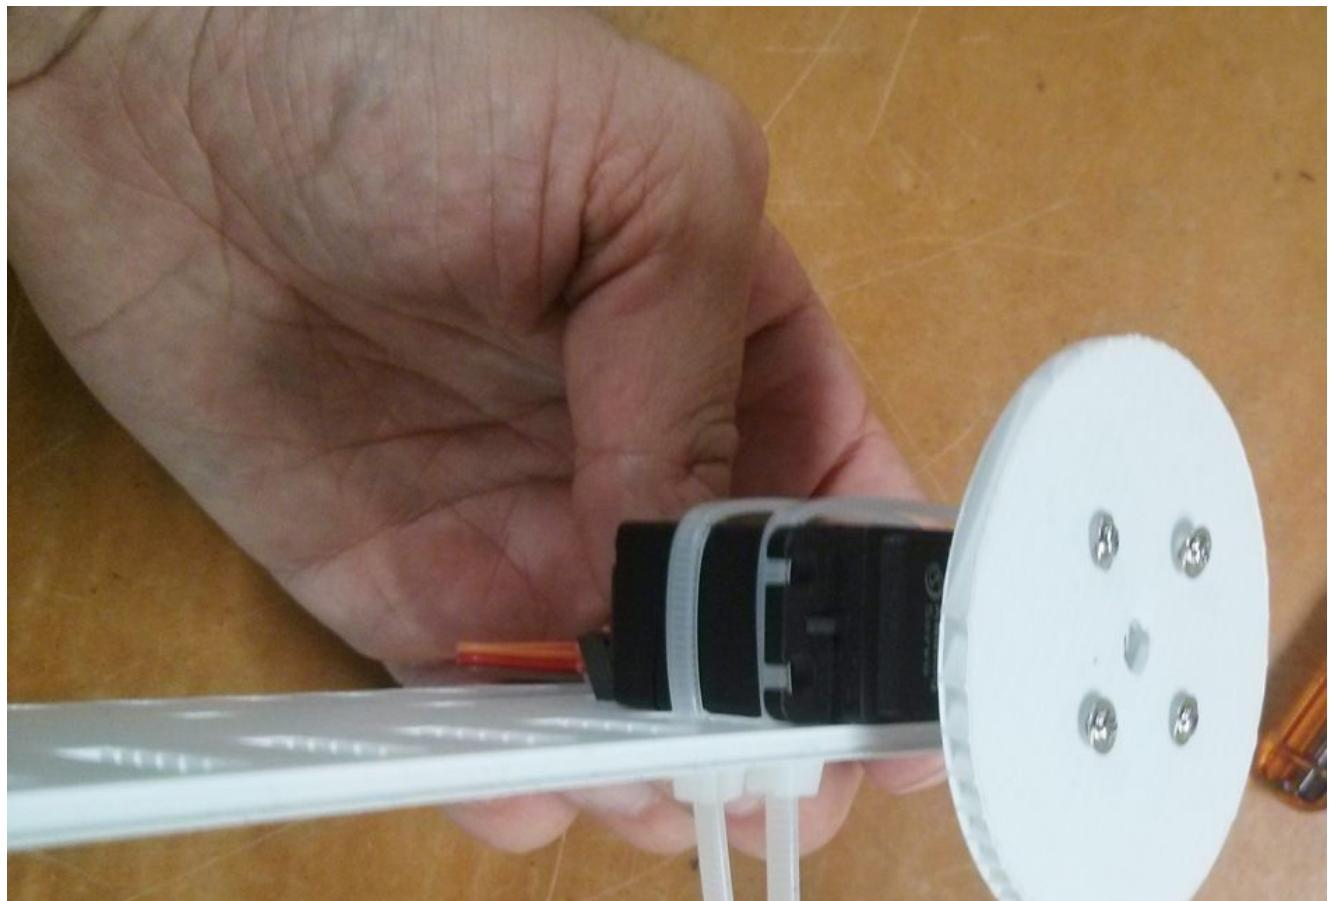

Figure 1-4. Servo mounted to the chassis
3. Next, mount the servos to the chassis, as shown in Figure 1-4. You want to place these more or less to the front so the weight balances. You can put them anywhere, but bear in mind you may need to weigh down one end if you find it's tipping. Mount the servos so the side with the wheel is closest to the front of the chassis, and attach them with two cable ties through the mounting holes to keep them in place. Use two cable ties so the servo body doesn't twist when you start driving.